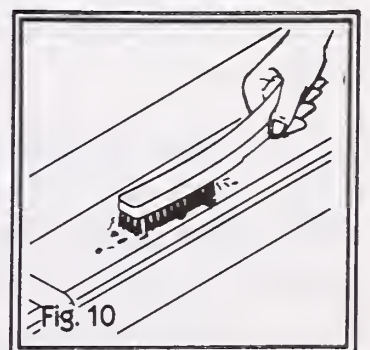

Fig. 10
5. Take off the excess mortar with the edge of the trowel. Now finish the joint to match the existing joints (fig. 10). You can make the V-shape with the tip of the pointing trowel. Hold the trowel at a 45-degree angle to the joint, push the tip into the joint and then firmly move the trowel along the joint (fig. 11).
1. Once you locate the leak, use the wire brush to clean the area of the leak free of loose metal and rust (fig. 10). Then wipe clean with a cloth.
1. Measure the length of the cut-out opening of the floor. Using the square, mark this cut line on the new board (fig. 10).